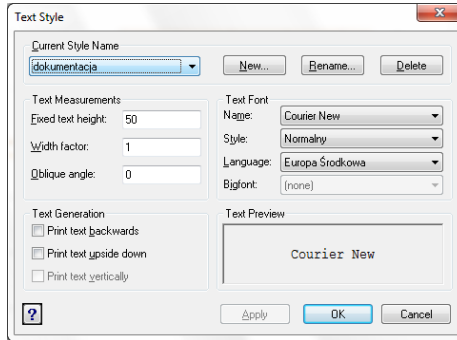

Fig. 51 – Text Style dialog box
**G — text styl** - the standard style setting is **documentation** (Fig. 51),